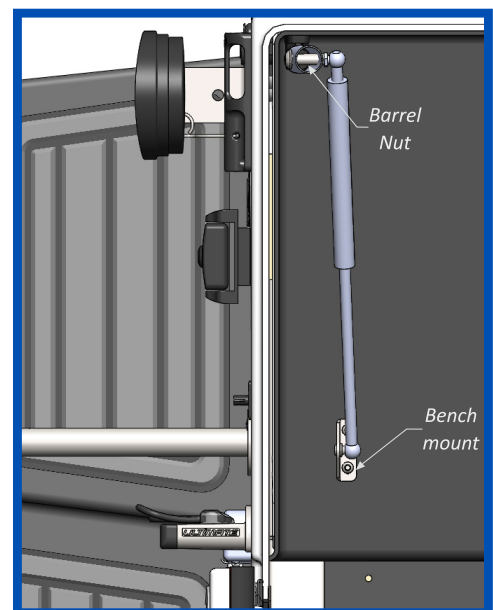
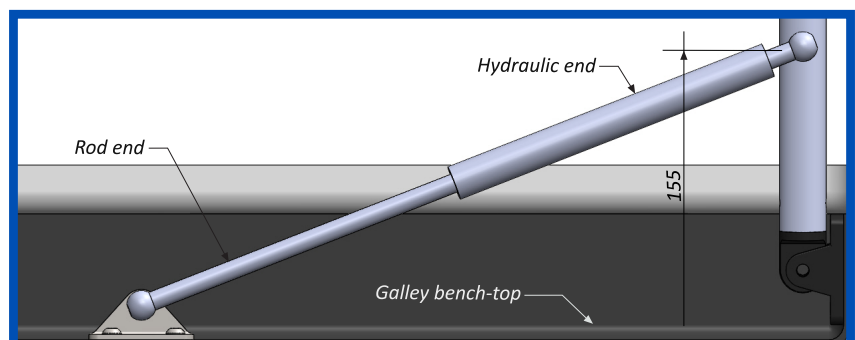

Fig. 2
Fig. 3
- Drill a 10mm hole through the galley bow. Make sure the hole is normal/perpendicular to the tube (See Fig. 2 & Fig. 3).